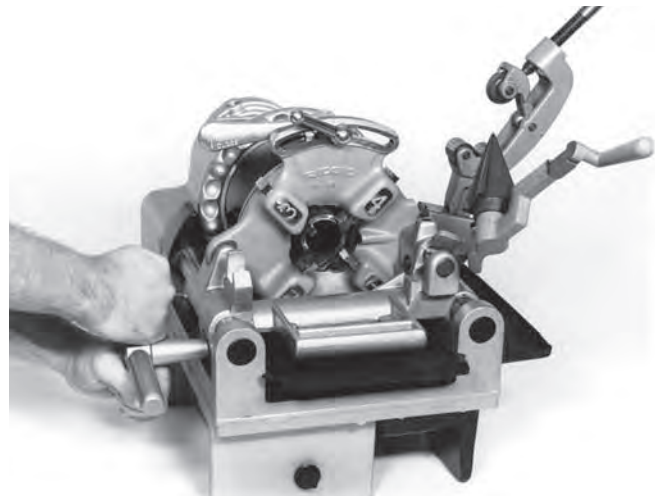

Figure 7 – Threading Pipe With No. 811-A Die Head
5. Turn carriage handwheel to bring dies against end of pipe. Slight pressure on handwheel will start dies (*Figure 7*).
The flow of oil out of the die head can be increased or decreased by adjusting oil control valve. (See Figure 7.)